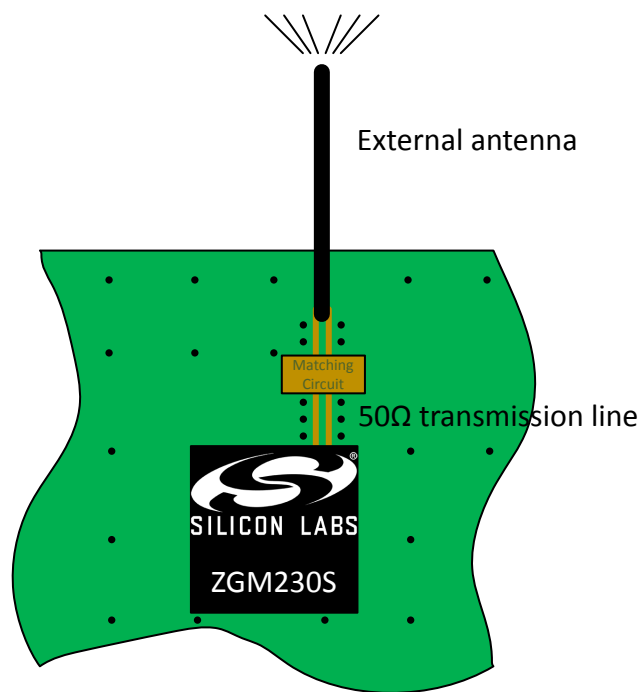

Figure 7.1. ZGM230S Implementation with External Antenna
- For an external antenna type, see Figure 7.1 ZGM230S Implementation with External Antenna on page 37, the location of the ZGM230S and its antenna is fairly flexible, but as described in AN853, the performance of the antenna will depend on the ground plane of the entire application PCB.